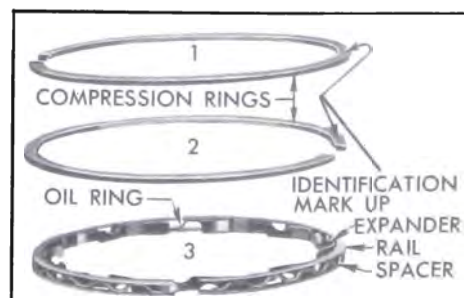

Figure 2-48—Compression and Oil Rings
7. Install compression rings in first and second lands of each piston. Top rings are assembled with inner bevel toward top of piston and second ring inner bevel toward bottom of piston. See Figure 2-48.